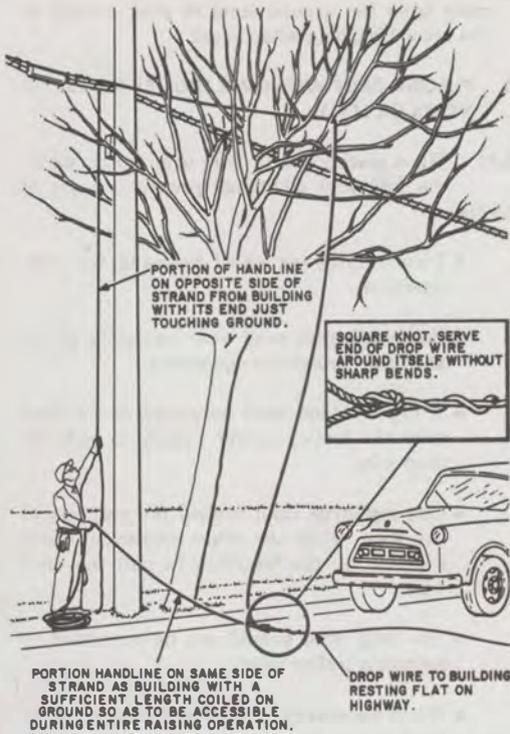

Fig. 7—Drop Wire Tied to Handline
- (1) Place handline over strand, guard arm, drive hook, or cross arm and among the tree branches as illustrated in Fig. 7, so that the drop wire may be raised into position. A
(2) Place the drop wire as covered in 3.01 (a), (c), and (d) and raise the wire at the pole of strand end of the span as follows:
- (b) Tie the drop wire to the handline as shown in Fig. 7. The handline must be long enough so that both ends are accessible from the ground during the entire raising operation.